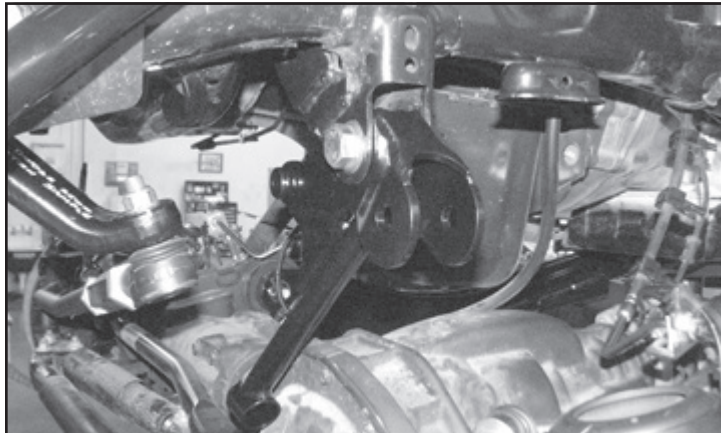

FIGURE 6 - STEP 14
14. Slide the track bar bracket into the factory mount and insert the M18 bolt into the factory pivot hole. **SEE FIGURE 6**